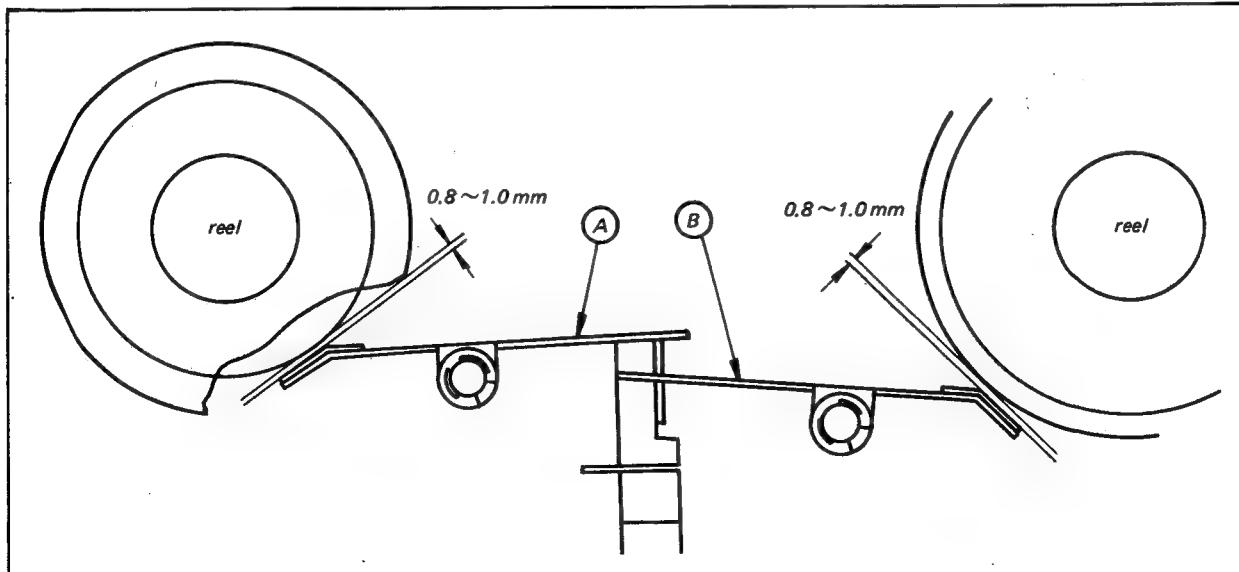

Fig. 7-16 Brake adjustment
- Check for  $0.9 \pm 0.1$  mm clearance between the reel table and brake shoe. Bend **(A)** or **(B)** portion for correct clearance. See Fig. 7-16.